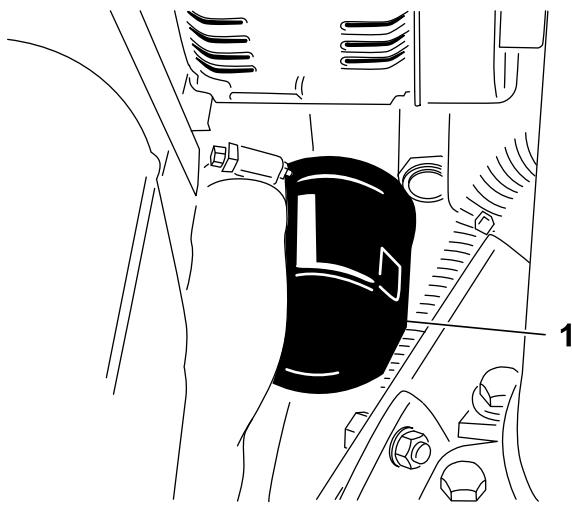

Figure 59
2. Remove the oil filter (Figure 59).